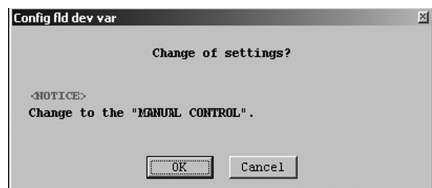

Fig.25
- ④ At "Temp", you can set up temperature units and temperature damping.
- ⑤ You are to set up individual items : for items with an arrow mark at right, click on the arrow mark at right, select the item from the drop-down list ; for other items, Key in appropriate values directly.
- ⑥ After filling in all the fields required, click on "OK" button. A message box as shown in Fig. 25 then appears.